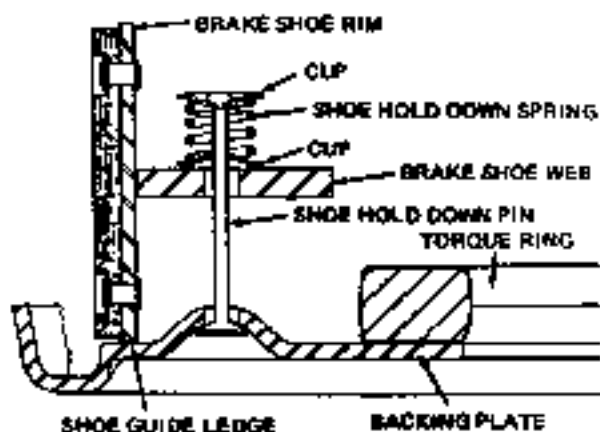

FIGURE J-16 - Shoe Hold-Downs
4. Attach secondary shoe to backing plate using shoe hold-down parts. Engage the shoe web with the notch at end of wheel cylinder link. The hold-down pins are installed from the back side of the backing plate as show in Figure J-16. Over each pin install two cups and the hold-down spring. Press down on outer cup sufficiently to engage the flat end of the pin through the slot and rotate cup 90°.